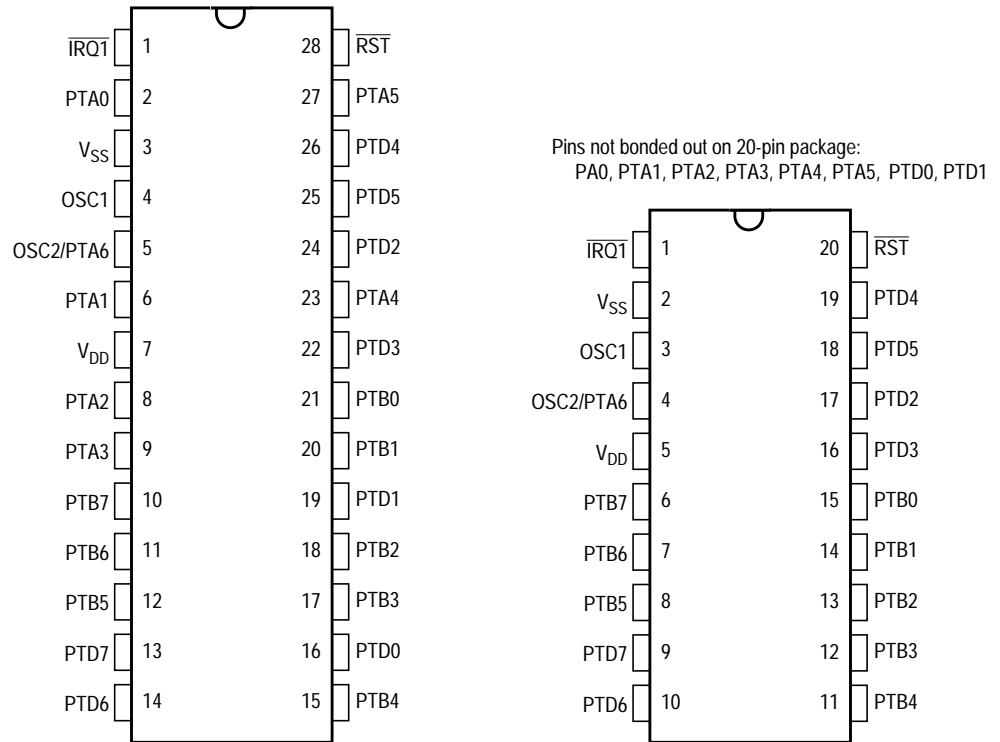

Figure 1. MCU Pin Assignments
- d. Pin assignment diagram (see Figure 1)